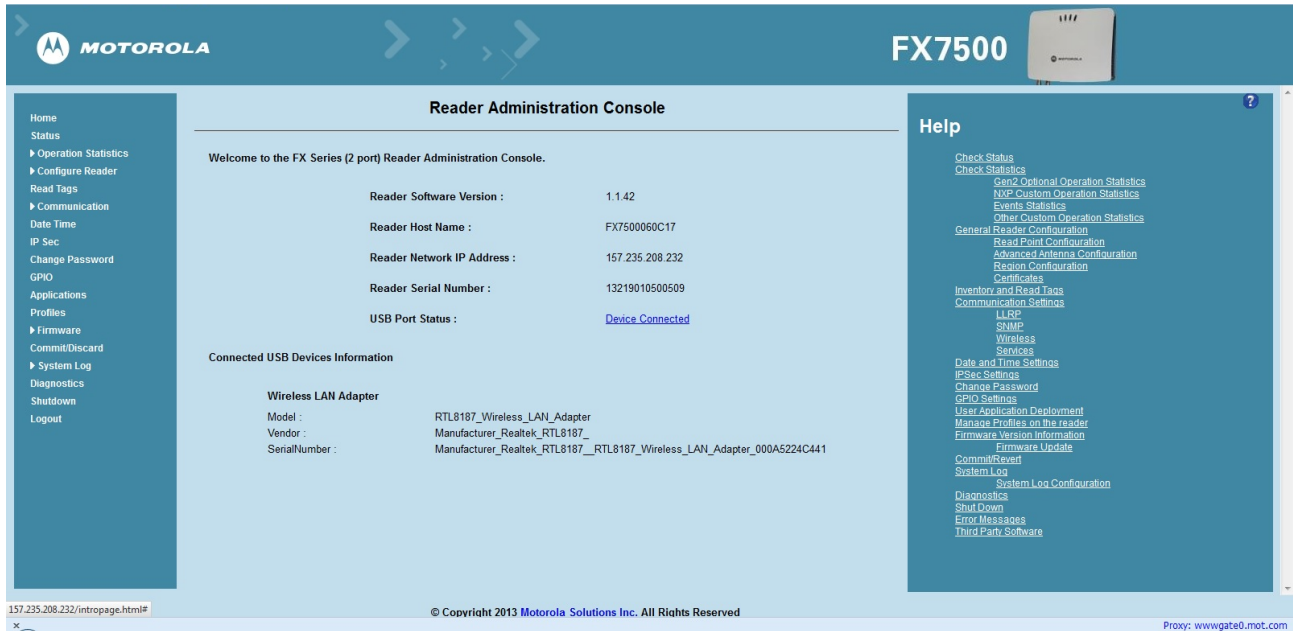

Figure F-2 Wi-Fi Dongle Connected
- To confirm that the Wi-Fi dongle is detected properly, log in to the reader Administrator Console. On the Home page ensure the **USB Port Status** displays **Device Connected**. Hover the mouse pointer over this link to display the WiFi dongle information shown in *Figure F-2*.